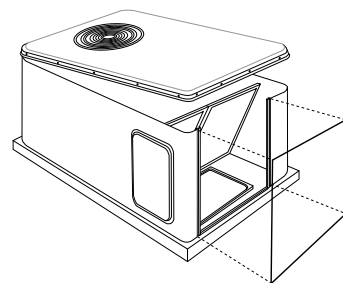

FIGURE 9. Remove end panel.
- 2) Remove end panel (See **FIGURE 9**)